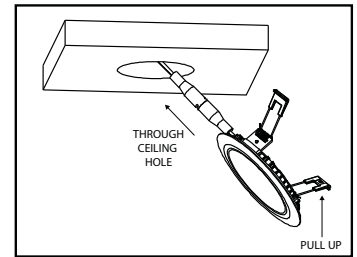

Figure 6 / Figura 6 / Schéma 6
6. Pull the spring clip on the fixture up and through the ceiling hole and place module in the hole making sure the spring clips are holding securely. (Figure 6)